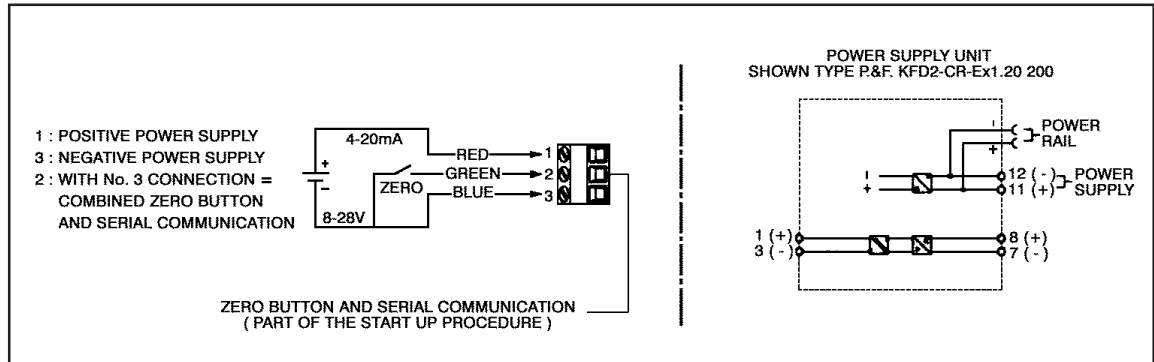

Figure 2-9 Transmitter Wiring Diagram
- E. After installation and powering of the loop, the transmitter must be zeroed to compensate for any stray magnetic effects in the vicinity of the transmitter. The zero function may be activated as part of a periodical maintenance check. The zero function is activated by momentary (>2 seconds) shorting the zero wire to the ground wire while power is on. Connect the transmitter as shown in Figure 2-9.